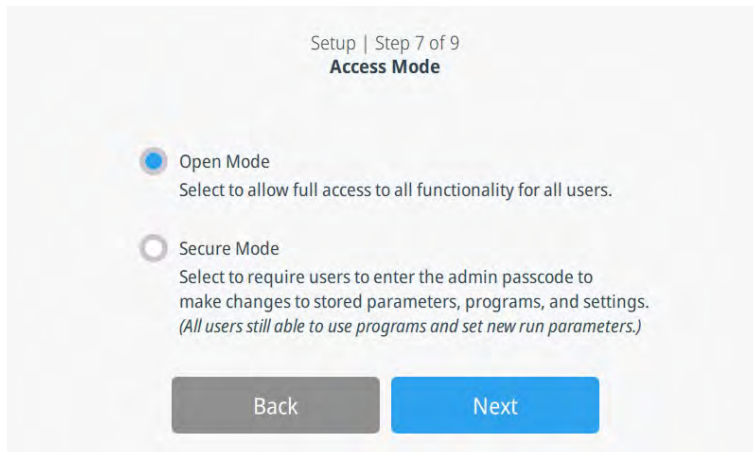

Figure 5-8. Choose Access Mode
19. If you choose „Secure Mode“ in Figure 5-8, you will be prompted to create a new administrative account.